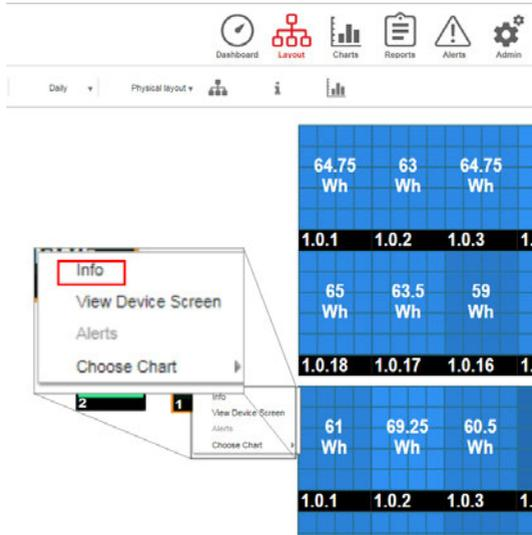

Figure 43: Inverter menu
2. Right-click the inverter and select **Info** from the menu (*Figure 43*). The inverter details window is displayed (*Figure 44*).